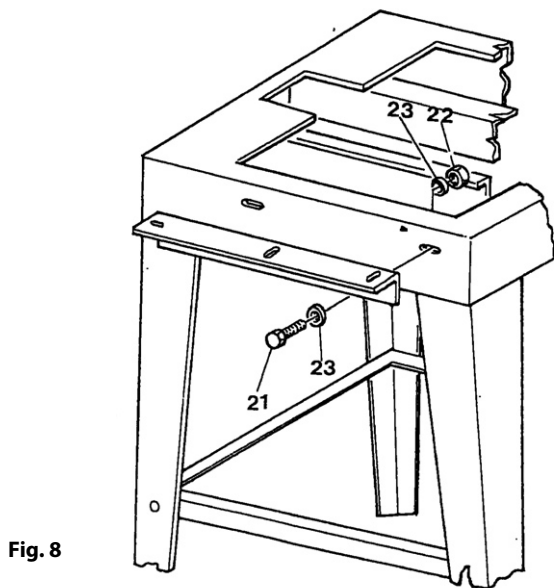

Fig. 8
- 6) Connect table holder squares with screws (21) TE M10×20 and relative (22) and washers (23) (see fig. 8).